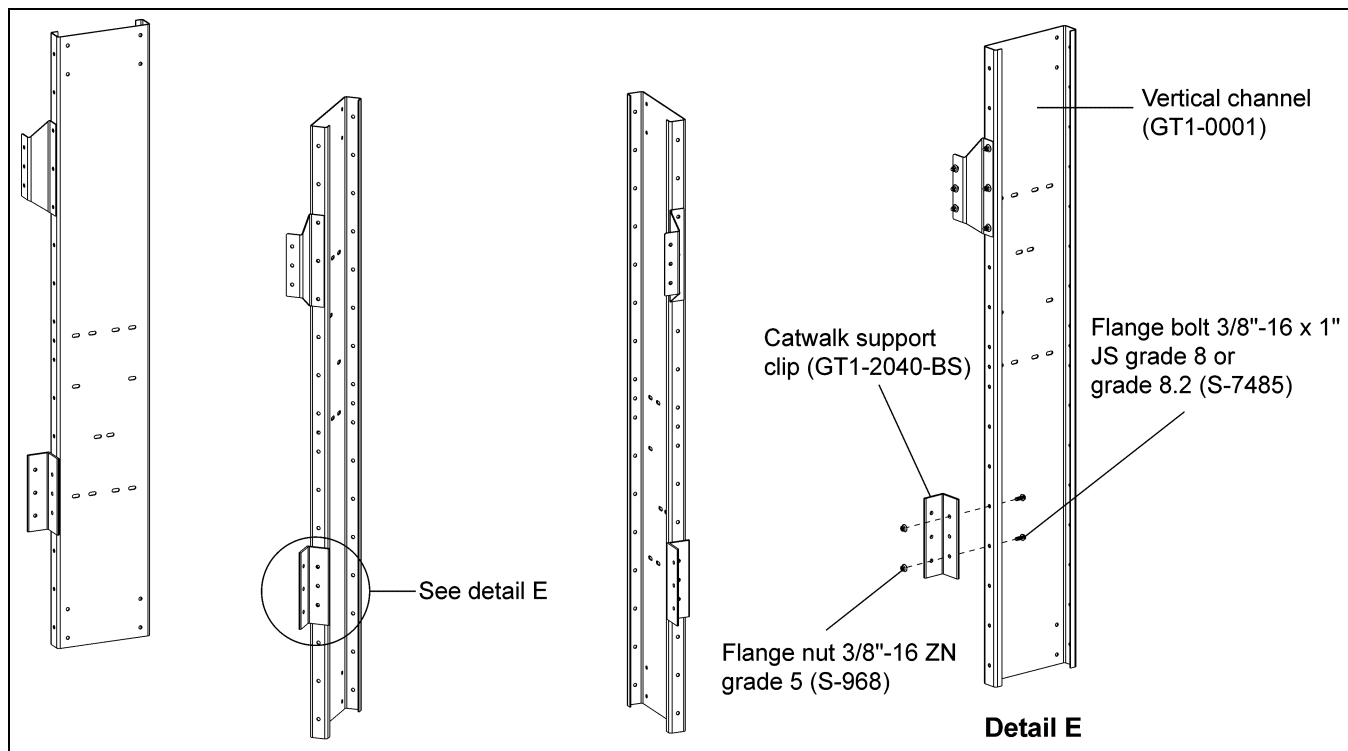

**Figure 6G** Offset Catwalk Support Clip Installation
1. Install catwalk support clips (GT1-2040-BS) to vertical channels (GT1-0001). Support clip can be installed on each vertical channel as the wall sheets are installed using 3/8"-16 x 1" JS grade 8 or grade 8.2 bolts (S-7485) and 3/8"-16 ZN grade 5 nuts (S-968). *(See Figure 6G below and Figure 6I on Page 48.)*